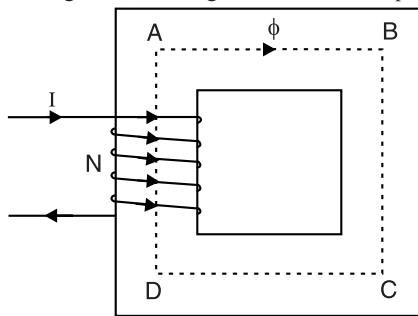

Fig. 8.43
1. In Fig. 8.43, the magnetic circuit is the path
2. If  $l$  is the magnetic path in Fig. 8.43, then magnetising force is
3. The reluctance of the magnetic circuit shown in Fig. 8.43 is